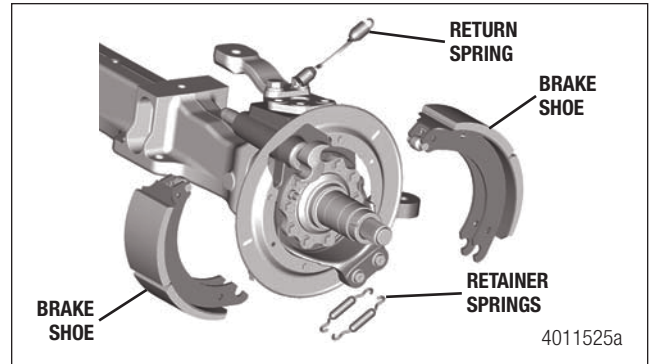

Figure 5.20
- Remove the return springs and retainer springs from the brake shoes. Remove the brake shoes. Figure 5.20.